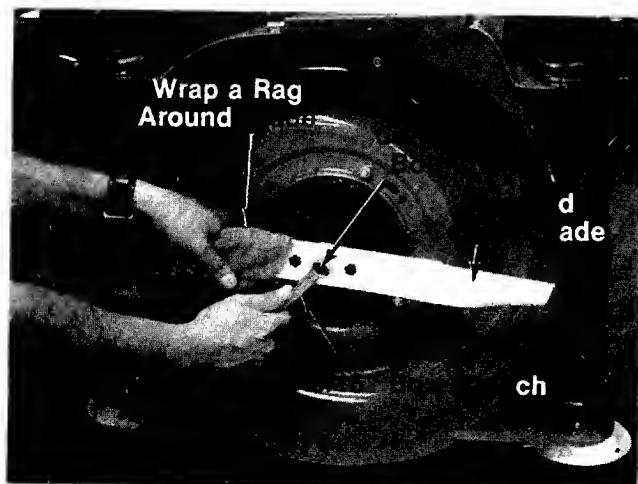

FIGURE 10.
3. Install the standard cutting blade by replacing the center bolt and lock washer. Tighten securely. Again, hold the blade with a rag for safety. See figure 10.